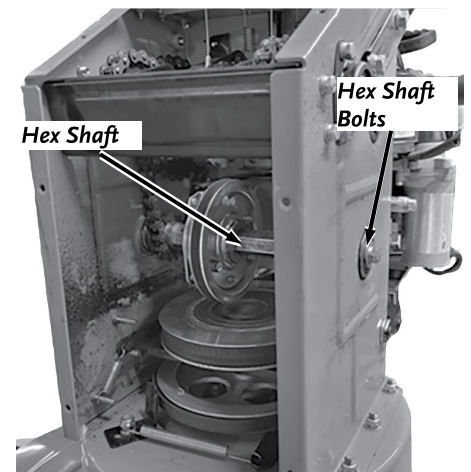

Figure 56
5. Remove Hex Shaft Bolts from the Hex Shaft. Hold the Hex Shaft with a Channel Lock Wrench (**Figure 56**).